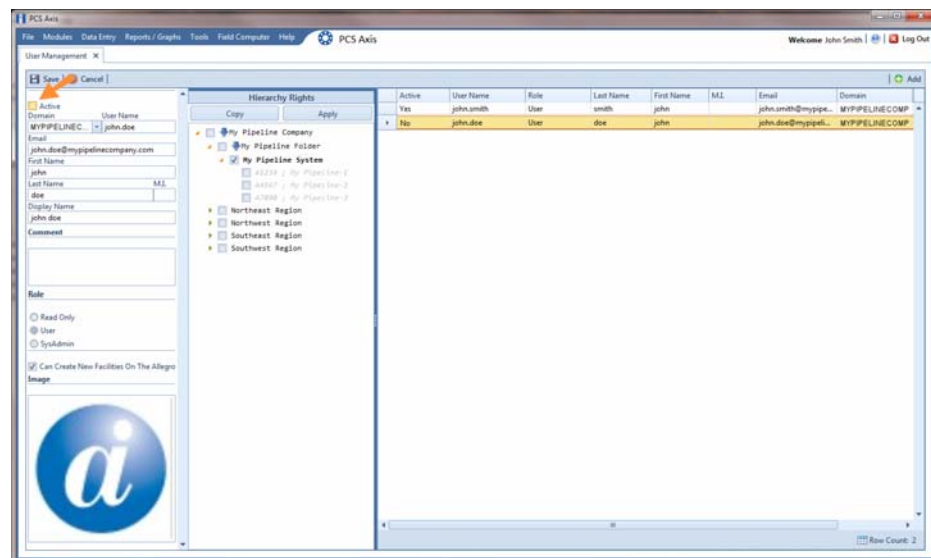

Figure 5-2. User Account Status
- 1 Click **Tools** > **User Management** (Figure 5-2).
The *Active* property setting changes from *Yes* to *No* indicating the user account is now inactive (Figure 5-2).